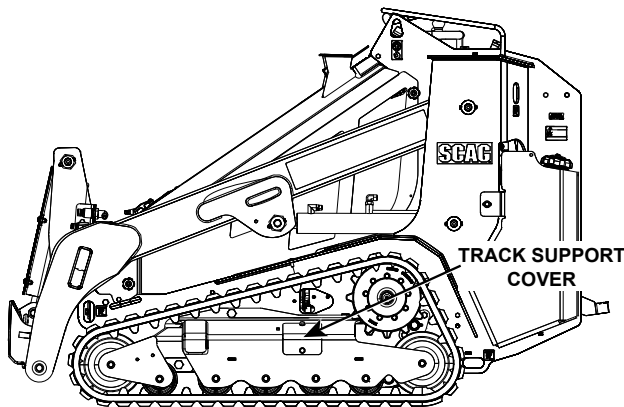

Figure 5-7. Track Support Cover
1. Loosen the bolts and remove the track support cover. See Figure 5-7.
3. Use a grease gun to pump grease into grease zerk until the sag in the track measures 3/8". See Figure 5-7.
1. Using a 9/16" wrench, loosen the bolts and remove the track support cover. See Figure 5-7.